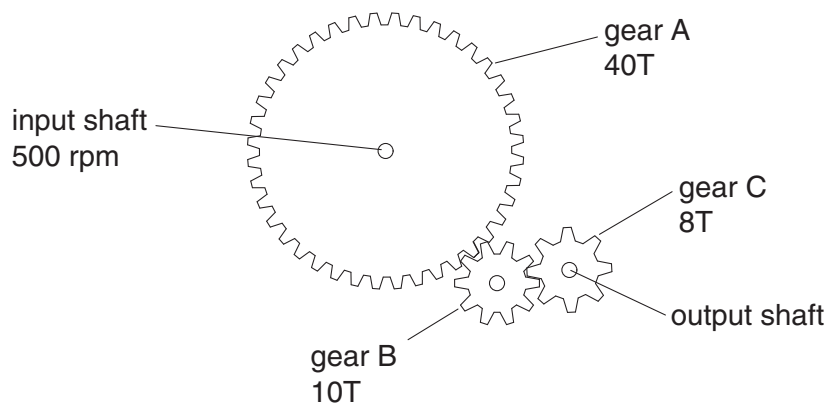

Fig. 8
- (c) Fig. 8 shows part of a gearbox.